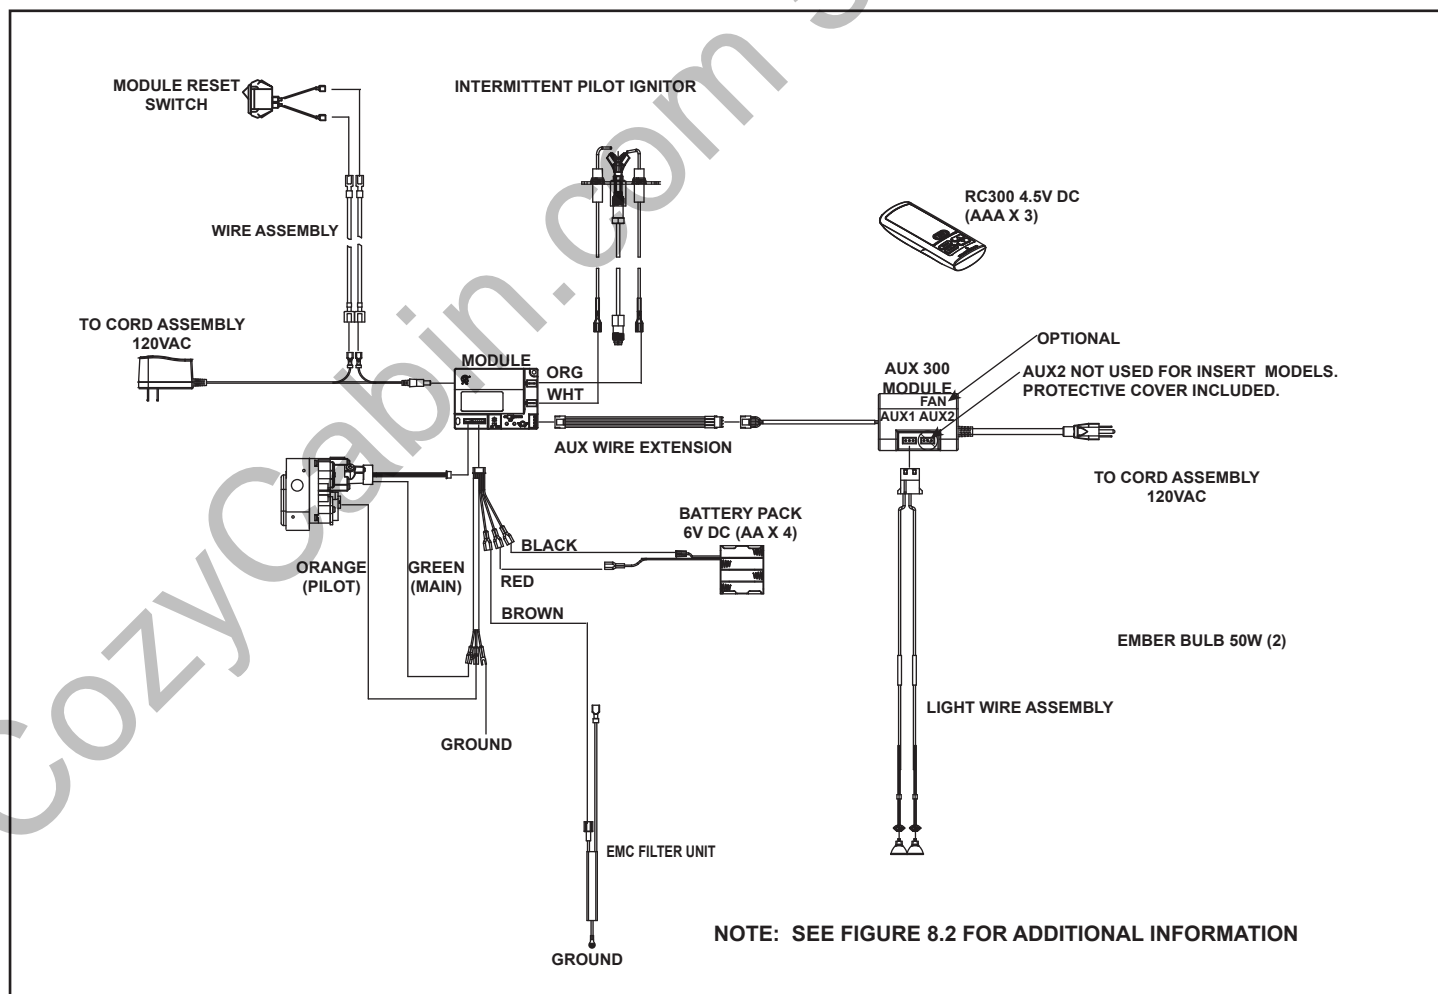

Figure 8.1 IntelliFire™ Plus Pilot Ignition (IPI) Wiring Diagram
- Refer to Figure 8.1, IPI Plus Wiring Diagram.
NOTE: SEE FIGURE 8.1 FOR ADDITIONAL INFORMATION